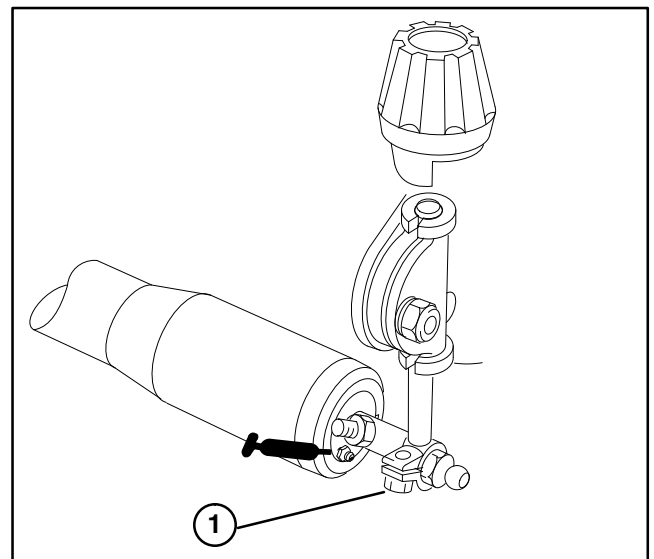

Figure 3
5. Reinstall roller adjusting screws into height-of-cut brackets until top of adjusting screws are flush with top of adjusting brackets. Slide height-of-cut knobs onto adjusting brackets and thread onto adjusting screws (Fig. 3).
6. Tighten capscrews and lockwashers securing roller adjusting screws to roller (Fig. 3).